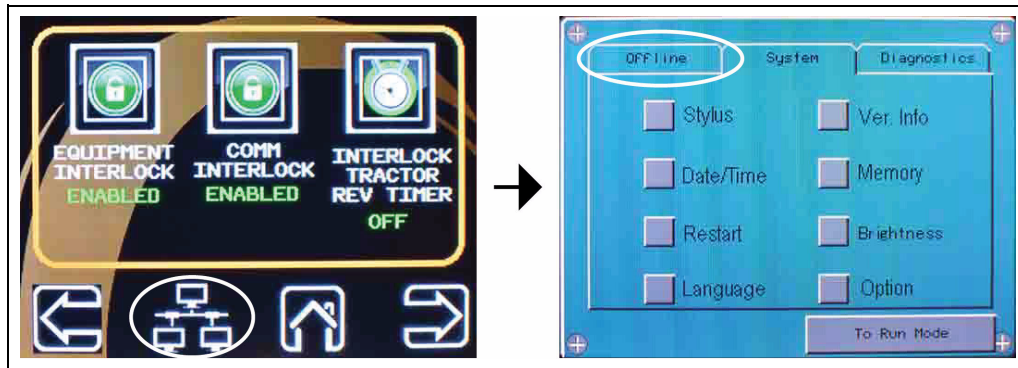

Figure 9X
1. Press the **“Network”** Icon to set the network communication parameters. (See Figure 9X.)